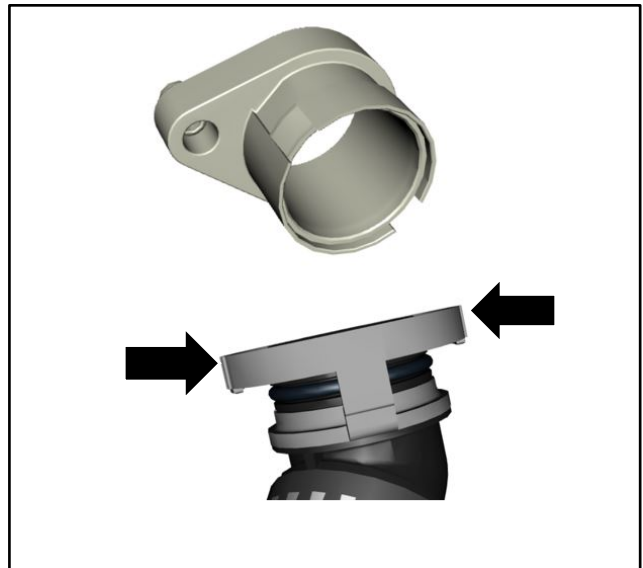

Figure 5
6. Disconnect the adaptor from the hose (refer to Figure 5).